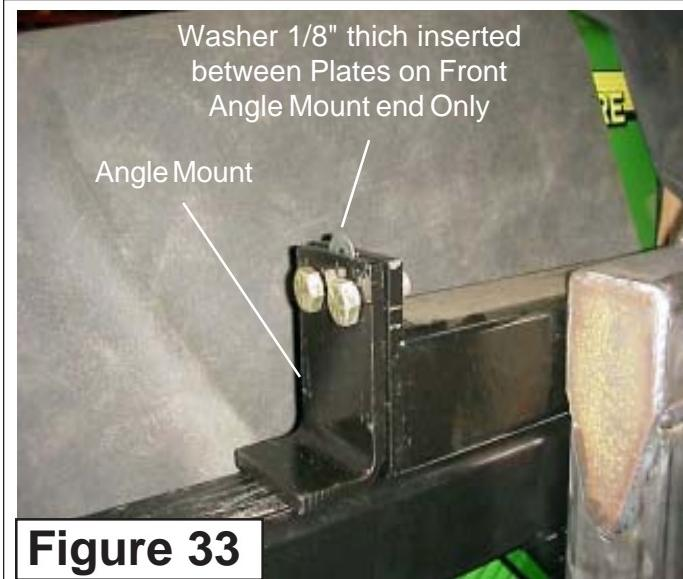

Figure 33
10. Install Front Angle Mount. Loosely bolt the Front Angle Mount on the other end (front) of each Mounting Tube (**See Figure 33**). Notice the washer that is installed between the Angle Mount and Mount Tube. This is there because about a $1/16$ " Gap is needed between the Mount Tube Plate and the Angle Mount Plate. Putting this $1/8$ " thick washer on the front Angle Mount end only will allow for this Gap on both ends. (**See Figure 33 & 34**) This should be done on right hand and left hand side Mounting Tube. This Gap allows the High Frame with the Mounting Tubes welded onto it, to be lowered down between the front and rear Angle Mount, which will be welded to the Frame rails later. Do not do any tack welding till instructed to.